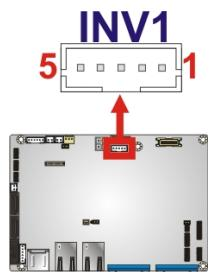

Figure 3-9: Backlight Inverter Connector
**CN Location:** See Figure 3-9